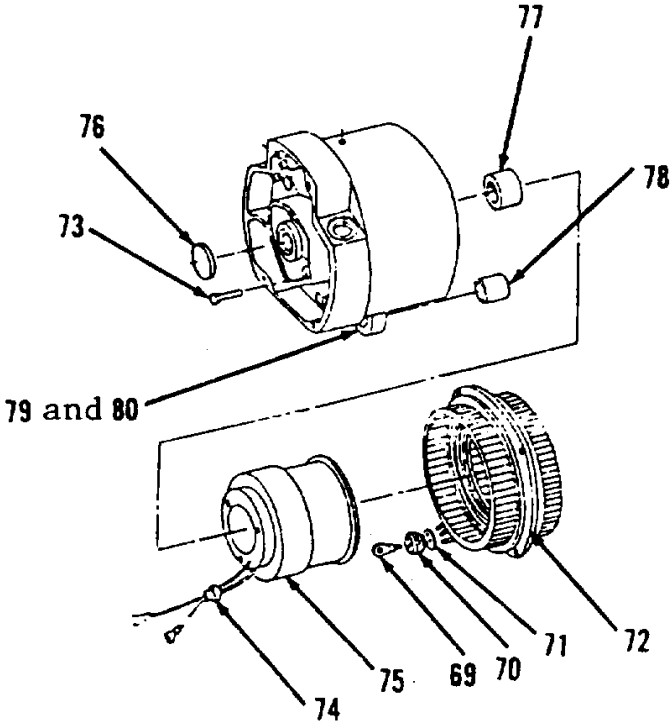

Figure 4-10.
- 35. Inspect three terminals (69) on stator (72, Figure 4-10).
- 36. Inspect grommet (70) and insulator (71). Replace if cracked, broken or deteriorated.
- 37. Remove three terminals (69), grommet (70) and insulator (71) from stator (72), if necessary. Do not cut three terminals (69) off from wires.
- 38. Remove three screws (73).
- 39. Push grommet (74) from mounting hole in housing (80). Do not damage grommet (74).
- 40. Remove grommet (74) and field coil (75) as an assembly from housing (80).
- 41. Using suitable driver and hammer, remove and discard plug (76).
- 42. Using suitable driver and hammer, remove and discard bearing (77).